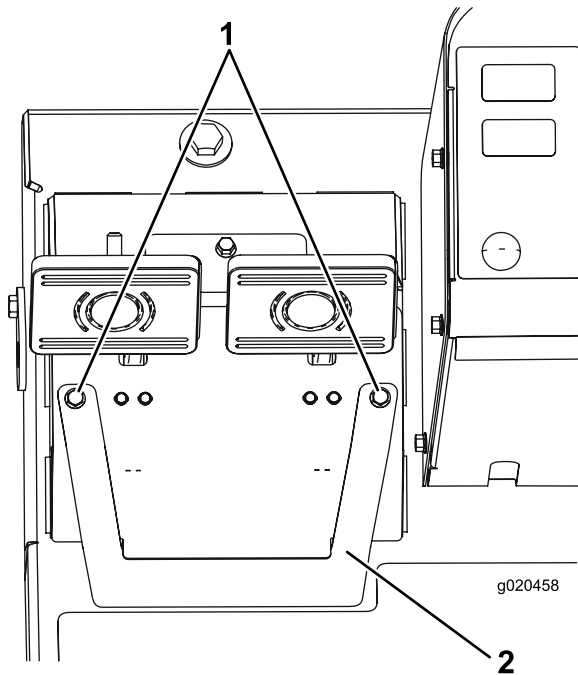

Figure 70
- A. Loosen the 2 mounting screws and remove the brake-adjustment cover (Figure 70).